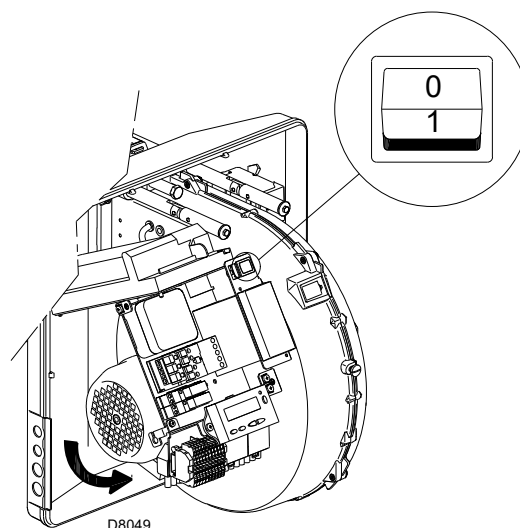

Fig. 31
Close the thermostats/pressure switches and turn the switch of Fig. 31 to position "1".
As soon as the burner starts up, go in front of the cooling fan of the fan motor and check it is rotating anticlockwise. See Fig. 31.
- place the switch of Fig. 31 in position "0" and wait for the control box to carry out the switch-off phase;
The burner is in the heat request waiting mode, or the selector “0-1” (Fig. 31 at page 31) is in the “0” position.